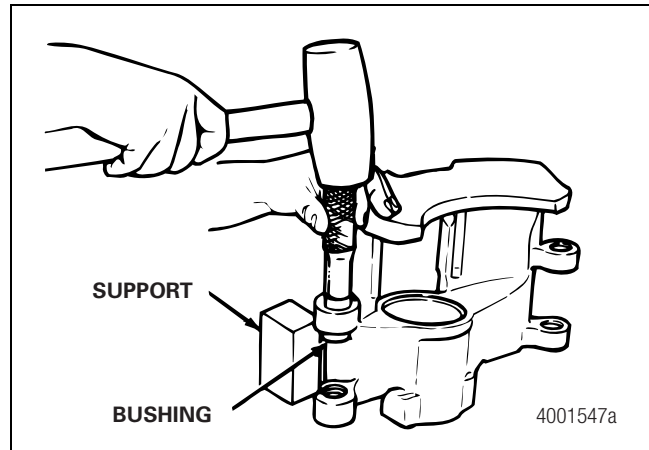

Figure 4.4
3. Use a bushing driver and a press or mallet to remove the bushings. Figure 4.4.